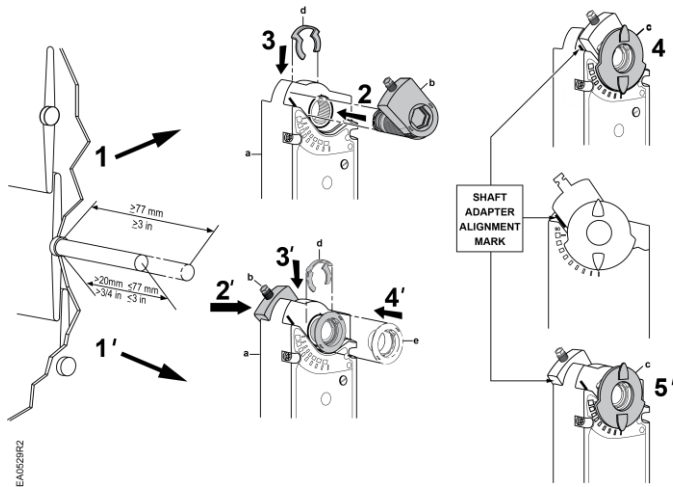
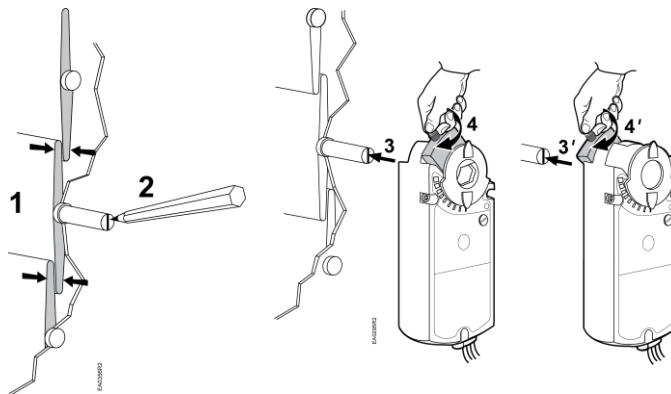
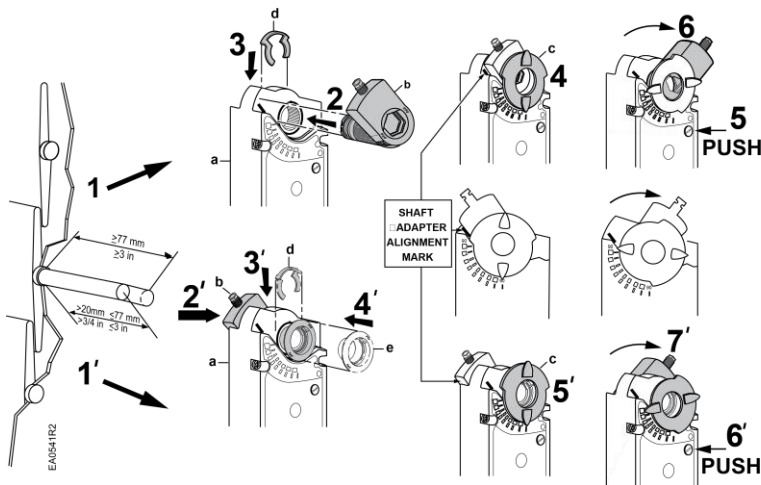
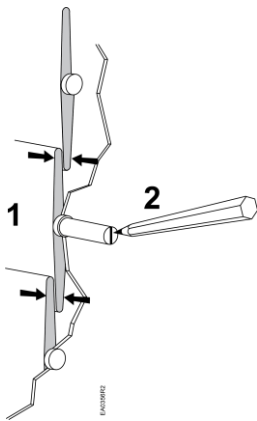

Figure 4. Shaft Adapter Placement for Clockwise Rotation on Short and Long Shafts.
Figure 5. Mount the Actuator to the Damper Shaft. Go to Figure 9 to Complete the Mounting.
Figure 6. Shaft Adapter Placement for Counterclockwise Rotation on Short and Long Shafts.
Figure 7. Mount the Actuator to the Damper Shaft.
3. See Figure 4 and Figure 5 for clockwise-to-open (CW) installation. See Figure 6 and Figure 7 for counterclockwise-to-open (CCW) installation.